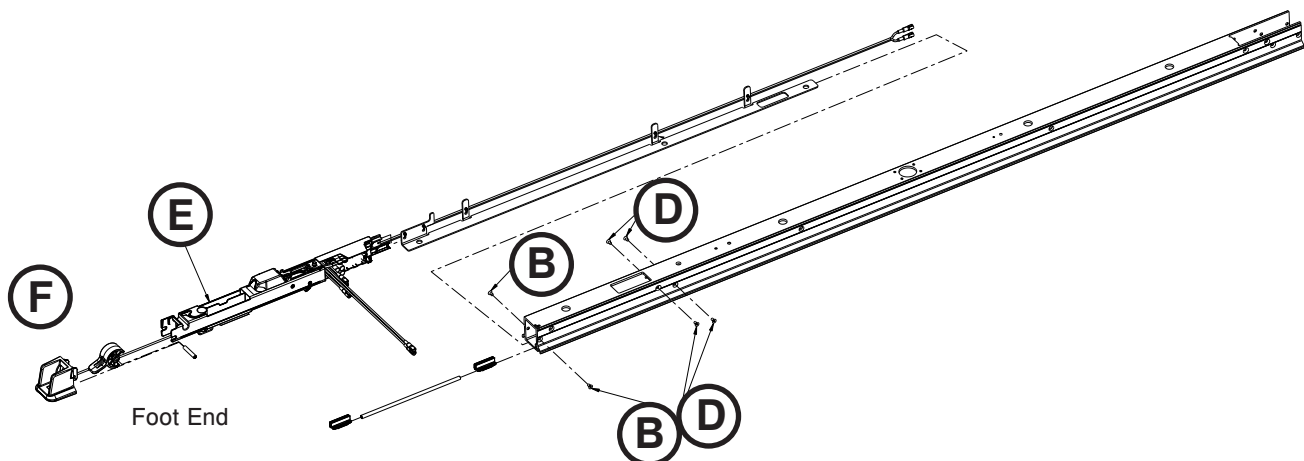

Figure 96
6. Using a 1/8" hex wrench, remove one of the two flat head cap screws (B) that secure the release lever housing (F) to the anchor (Figure 96).
- Using a 1/8" hex wrench, remove two of the four flat head cap screws (D) from one side of the anchor plunger assembly, mid (Figure 96)). Save all parts for reinstallation.
- Using the second 1/8" hex wrench, insert the wrench into the anchor pivot pin to remove the other two of the four flat head cap screws (D) (Figure 96). Save screws for reinstallation.
- Carefully remove the anchor plunger assembly, mid (E) from the anchor (Figure 96).